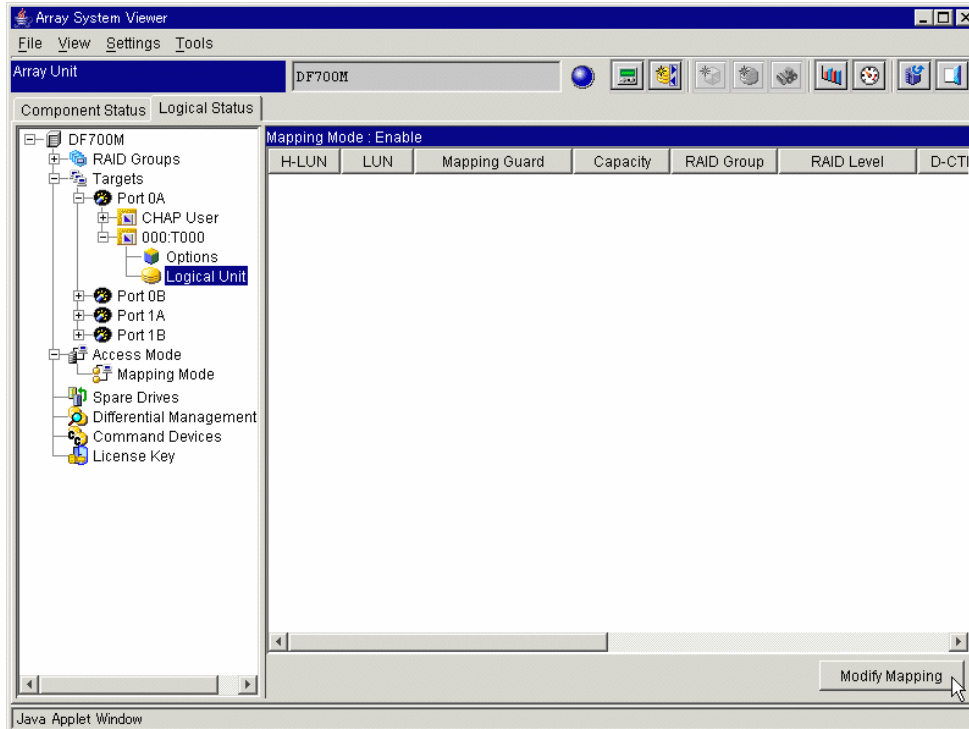

Figure 8.8 Array System Viewer - Logical Unit
1. Click the **Logical Status** tab on the Array Unit screen. See Figure 8.8.